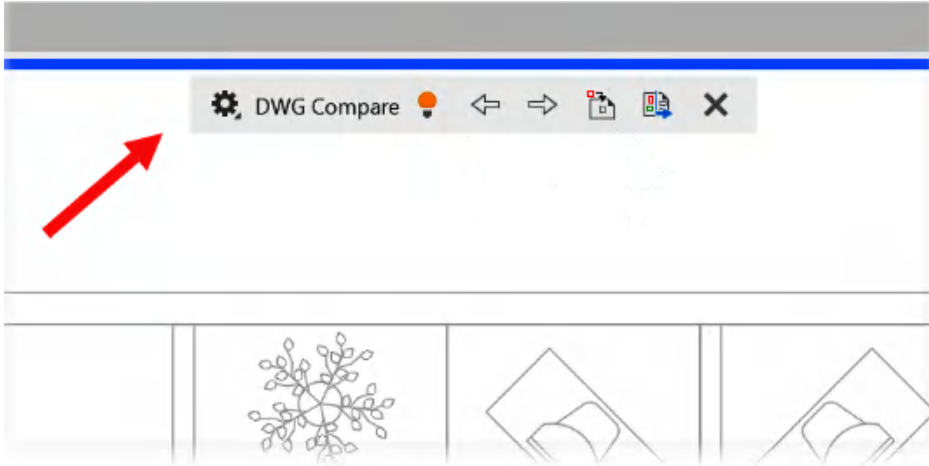

Figure 14.5: The DWG Compare mode with the toolbar arrowed
4. The AutoCAD screen will change quite dramatically as you are taken into DWG Compare mode, with the **DWG Compare** toolbar at the top of the drawing area, as shown in *Figure 14.5*. The drawing looks greyed out, which is not the case. Anything grey (by default) is common to both compared drawings.